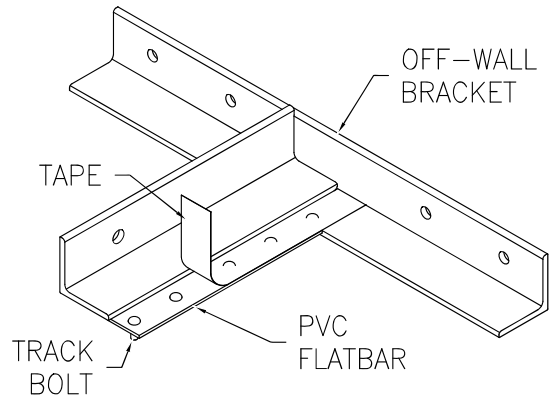

FIG. 3
- Tape backside of flat bar to hold track bolts in place (Fig. 3)